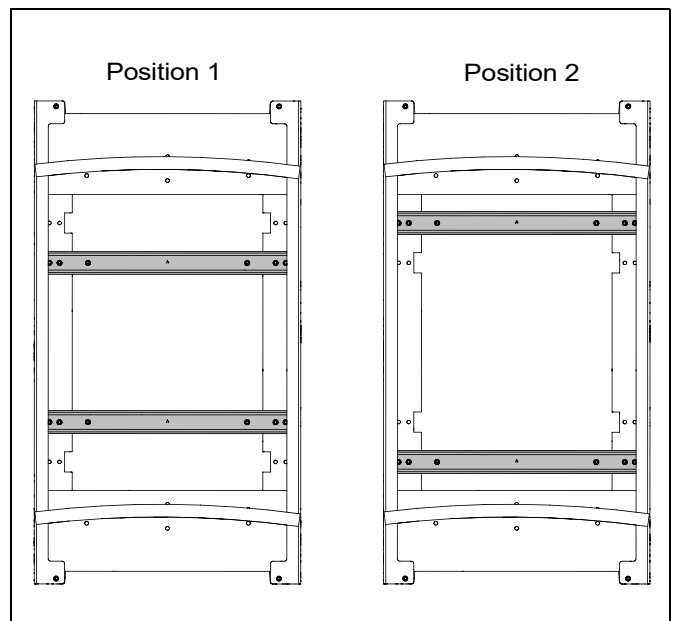

Figure 3
IMPORTANT ! : Crossbars (C) can be installed in two different positions. Verify requirements of mount to be used before installing crossbars. (See Figure 3)